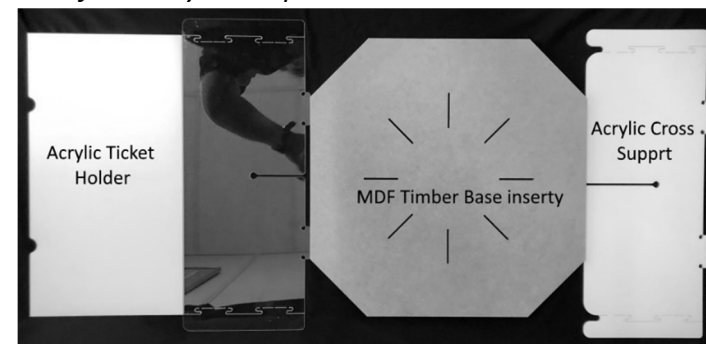
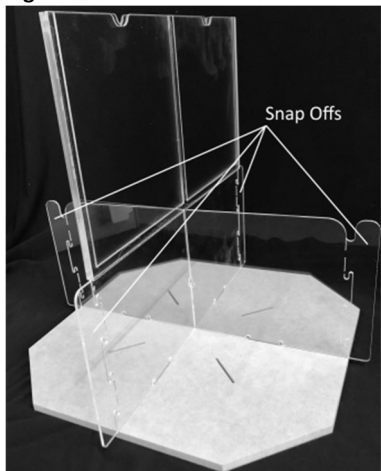

Fig 3.
Fig 4.
- Step 7.** Locate the “Acrylic Cross Support” and insert the tabs on the base into the slots in the “MDF Timber base” as shown Fig 3,4&5
- Step 8.** Gently slide the Acrylic ticket holder at right angles to the Acrylic cross support as shown in Fig 3. & Fig 4 & Fig 5